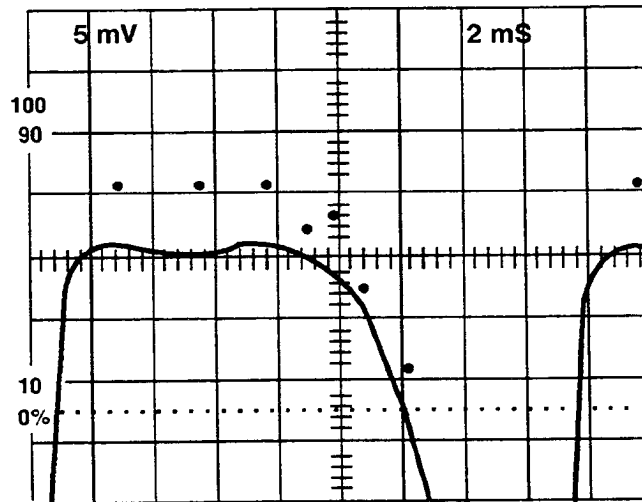

Figure 7-13: Adjusting for flattest response
- j. Adjust A4C43 (SINX/X CORRECTION) for flattest response. See Figure 7-13.